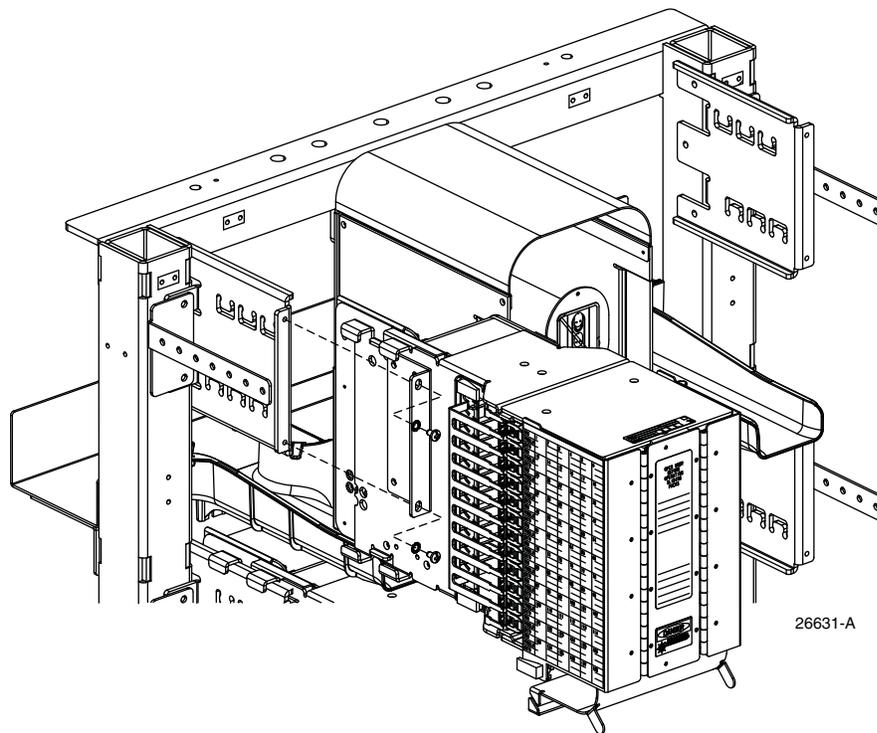

Figure 6. FTB Installation on Rack
Use the following procedure to mount the FTB on the NGF rack (see Figure 6):
3. Slide the FTB onto the appropriate mounting bracket at the front of the rack as shown in Figure 6.